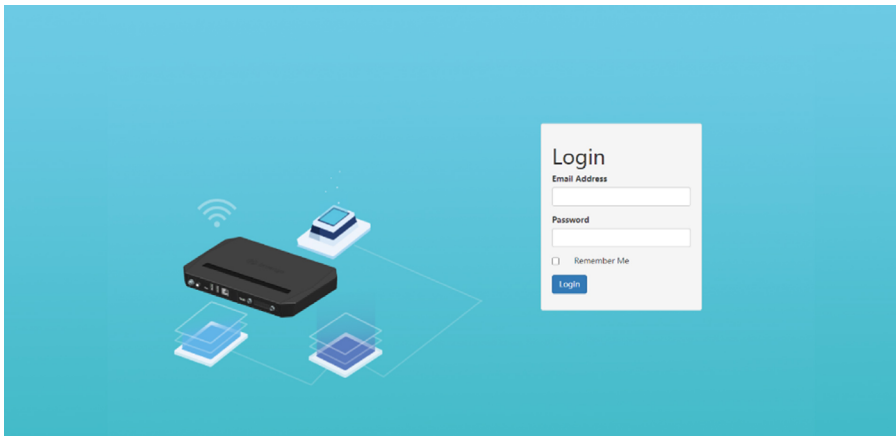

Figure 6.1 Web Login Interface
Step 1: Install Google or Mozilla Firefox browser into the PC, and type the IP address of the reader in the address bar: 192.168.**.**:5000 or invengo-xx-xx-xx.local:5000, “xx” is the last three bytes of the MAC address (the MAC address is pasted on the side of the reader), as shown in Figure 6.1.